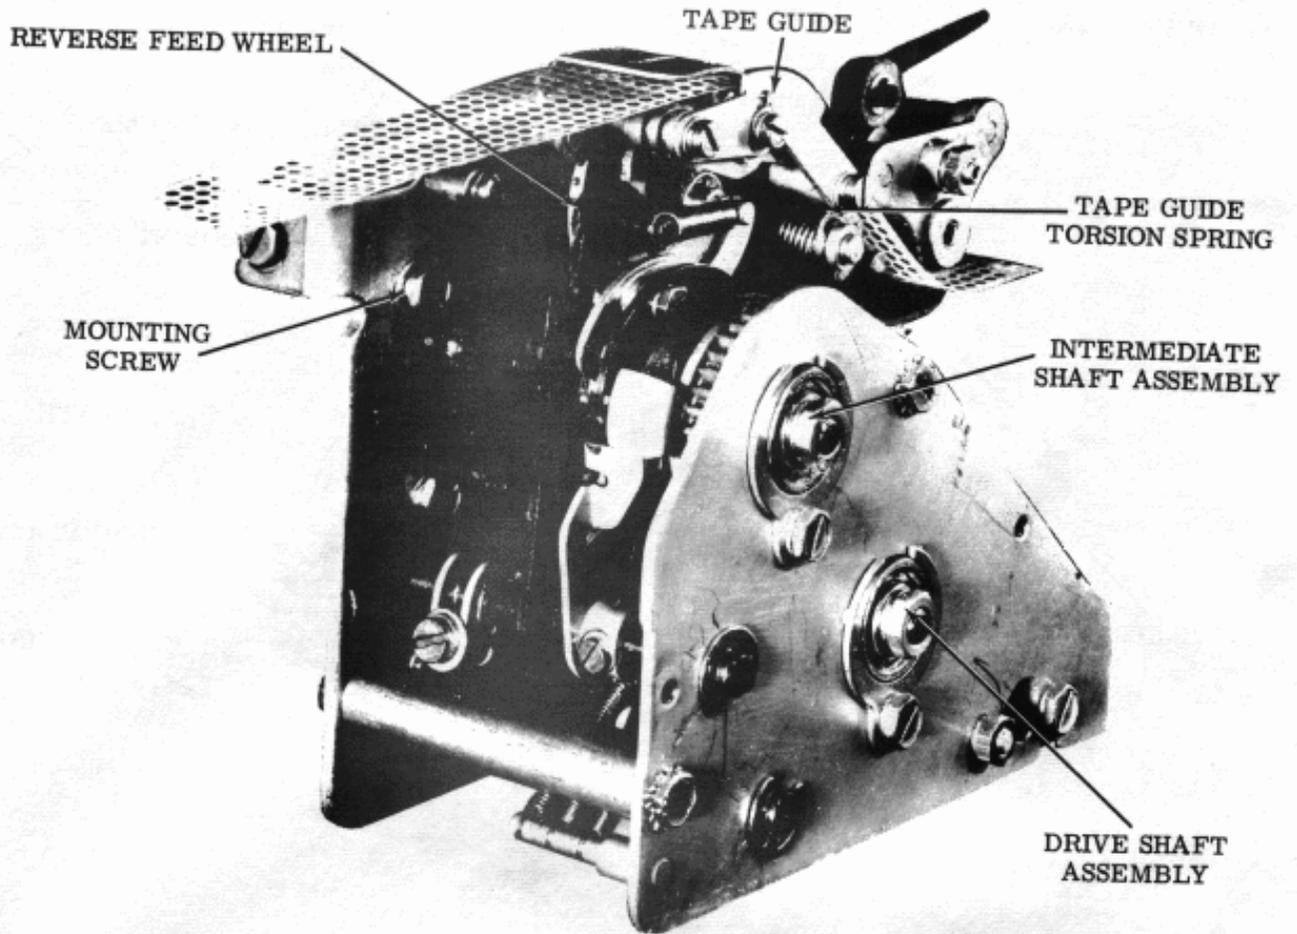

Figure 9 - Punch Backup Mechanism, Left Front Oblique
#### PUNCH BACKUP MECHANISM (Figure 9)
- 3.07 To remove the tape guide assembly (Figures 9 and 10):
- 3.08 To remove the backup mechanism from the main casting (Figures 9 and 11):